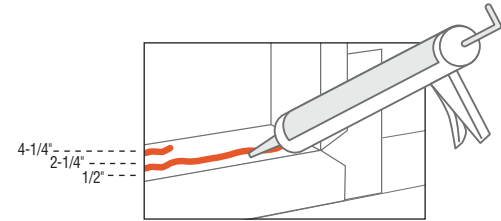

fig. 17
- c. **Sill caulking:** Apply one continuous, generous bead of caulking 1/2" in from the exterior of the rough opening and one continuous bead at 2-1/4" in from the exterior of the rough opening and at 4-1/4". (fig. 17)